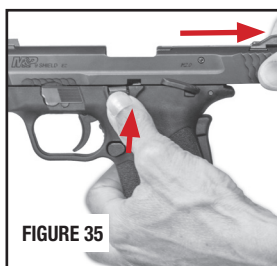

FIGURE 35
- Pull the slide fully rearward and engage the slide stop (FIGURE 35) to lock the slide open.